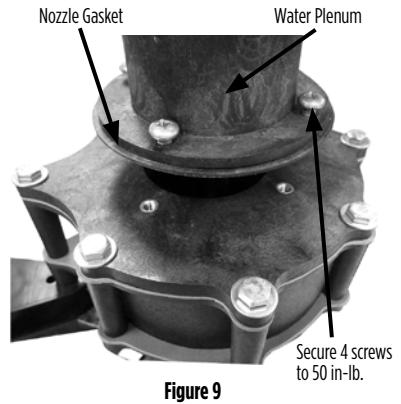

Figure 9
- Install water plenum and nozzle gasket on top of the pump head assembly. Secure with four $\frac{1}{4}$ -20 x $1/2$ " bolts in an alternating fashion, torquing each to 50 in-lb (Figure 9).